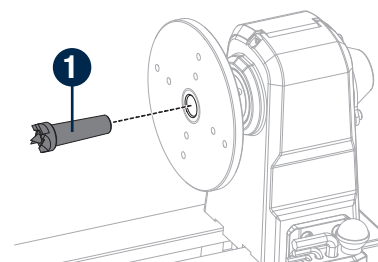

Fig. 5
- Insert the shaft of the headstock spur centre (1) into the hollow centre of the headstock spindle (Fig. 5).
- Insert the push-out rod (3) into the far end of the headstock spindle or the tailstock spindle until it comes into contact with the shaft of the spur or centre.
- Tap the end of the push-out rod (3) until the spur or centre comes loose.